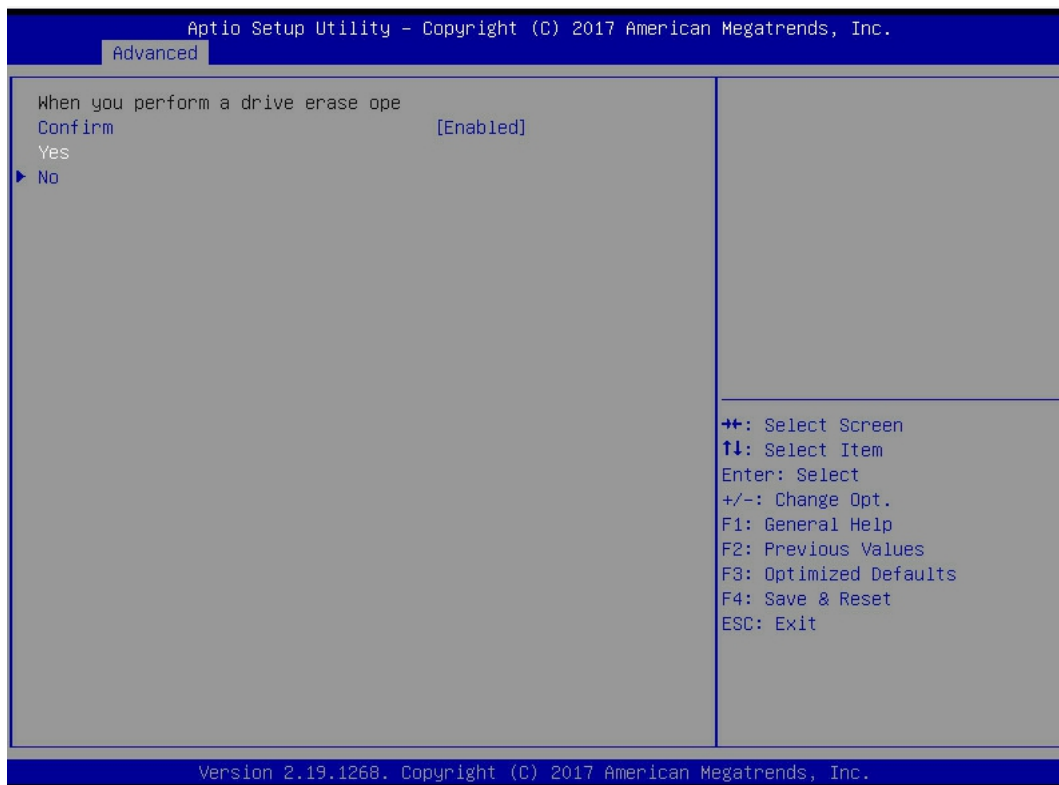

Figure 6-82
f) Enter the interface shown in figure 6-82, select confirm to enable it, select Yes, and press enter.
✧ Figure 6-82 confirm erase